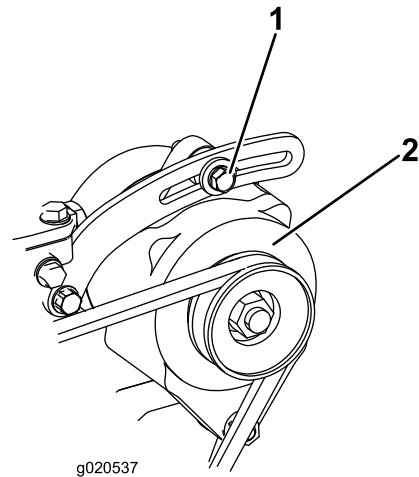

Figure 64
1. If the deflection is not 10 mm (3/8 inch), loosen the alternator mounting bolts (Figure 64).